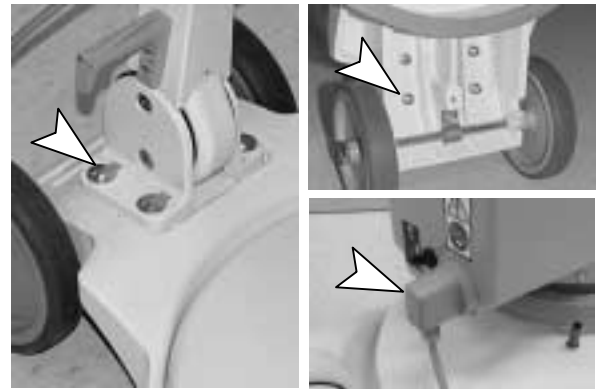

FIG. 1
1. Position the handle assembly on the base as shown. Insert (4) screws, supplied, through the top of the handle support and into the machine base. From bottom side of base, secure screws with nuts and washers, 13 mm wrench required (Figure 1).
2. Connect the power cord into the switch housing receptacle (Figure 1).